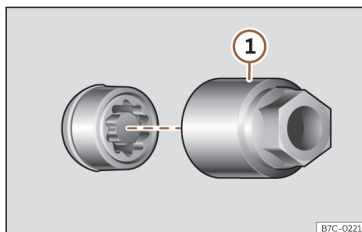

Fig. 40 Anti-theft wheel bolt with cap and adapter.
- Insert the special adapter >>> Fig. 40 ① (vehicle tools >>> page 45) onto the anti-theft wheel bolt and push it on as far as it will go.